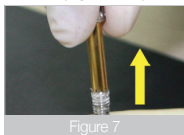
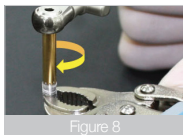

Figure 7
Figure 8
- 6 Attach a vise to the lower part of the removed implant (Figure 7). After connecting the torque control device to the fixture remover, rotate clockwise in order to separate from the implant. (Figures 8, 9)